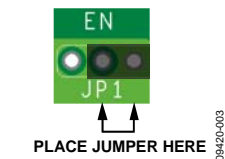

Figure 3. EN Jumper Position
- Enable the converter by using a jumper to connect the right most pins of JP1. The jumper connects the EN pin to VIN, effectively enabling the converter (see Figure 3).